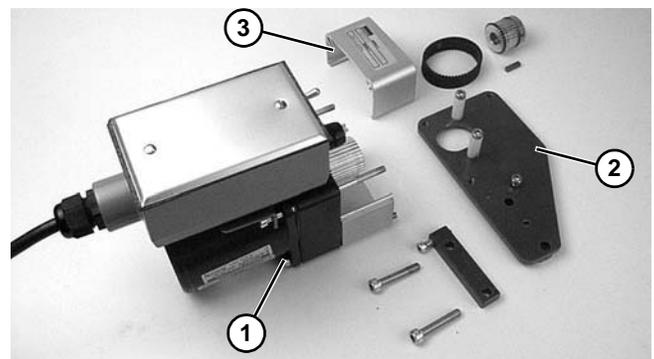

Figure 4
6. Loosen four (4) screws (Figure 4, item 1). Detach mounting bracket (Figure 4, item 2).
7. Remove two (2) top screws (Figure 4, item 1) and remove top cover (Figure 4, item 3).